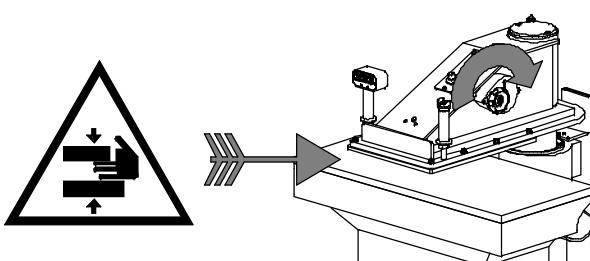

Fig. 10
- a) The handwheel located on the right side of the arm is used to adjust the turning arm stroke. By turning it clockwise, as indicated by the arrow in Fig. 10, the arm moves downward; counter clockwise, the arm moves upward.